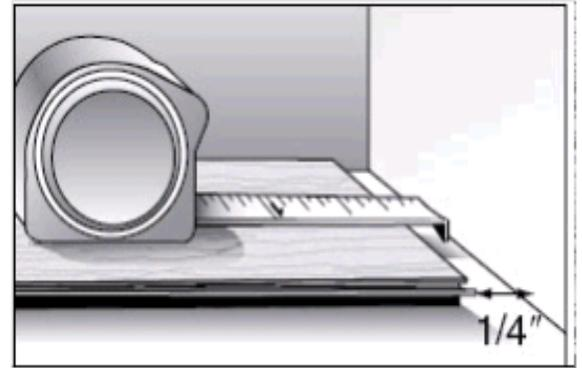

Fig. 9
3. Use spacers along all sides that butt up against walls to maintain 1/4" (6.35 mm) to 1/2" (12.7 mm) expansion zone (Fig. 9).